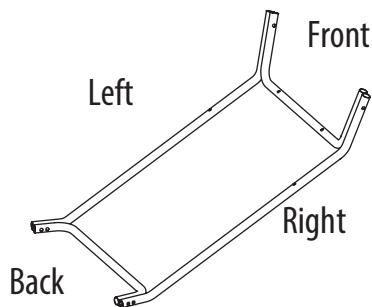

Figure 1
2. Place the a 2.5" carriage bolt (Item #2) into one of each of the holes at each of the corners shown in Figure 1. Then, screw a hex nut (Item #4) to each bolt. Do not completely tighten carriage bolts until after brackets are assembled to frame (see next step).